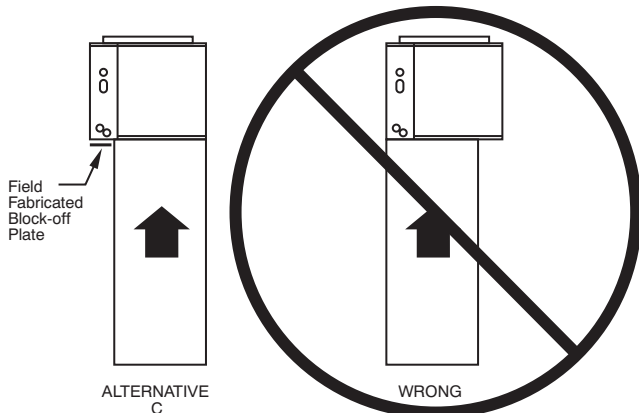

Fig. 4 - Alternative Coil Mounting Positions
2. Remove coil from packaging and place on top of furnace with 1 5/8-in (41 mm) overhang on both sides. See Fig. 4, Alternative A.
2. Place transition on top of gas furnace. See Fig. 4, Alternative B. Secure with sheet metal screws. Place coil on top of transition. Make sure coil rests evenly on top of transition and gas furnace.
1. Notch support rail on underside of coil cabinet to provide clearances for gas furnace flange. This rail is not visible from front of coil. To locate position of notch, place coil directly on top of gas furnace with overhanging portion entirely on left side as in Fig. 4, Alternative C. Mark location of gas furnace flange on coil casing. Remove coil from top of furnace. Using tin snips, make a notch in rail large enough to allow clearance for gas flow furnace flange.
3. Prepare and install block-off plate. See Fig. 4, Alternative C. Using field-supplied sheet metal, cut a block-off plate to be attached to bottom left side of coil casing. This plate prevents air leakage from overhanging portion of coil. Attach plate using sheet metal screws.